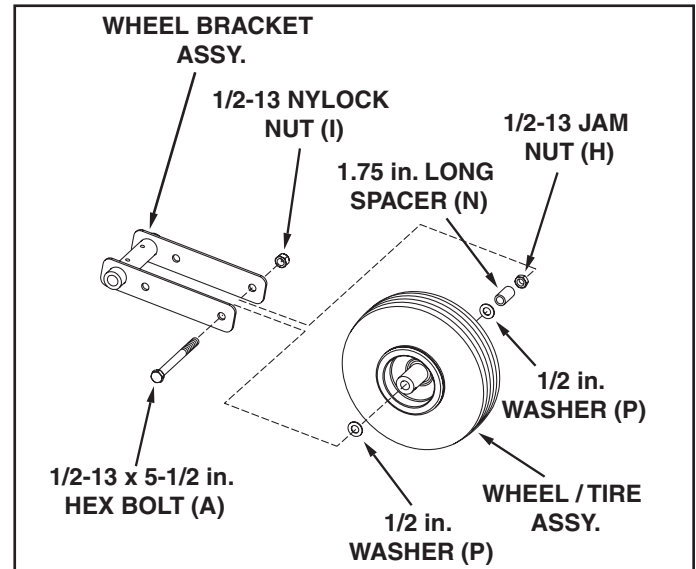

FIGURE 2
2. Assemble each wheel and tire assembly to each wheel bracket using one 1/2-13 x 5-1/2 in. hex bolt, one 1/2-13 jam hex nut, one 1.75 in. long tube spacer, two 1/2 in. flat washers and one 1/2-13 nylock hex nut. See figure 2.